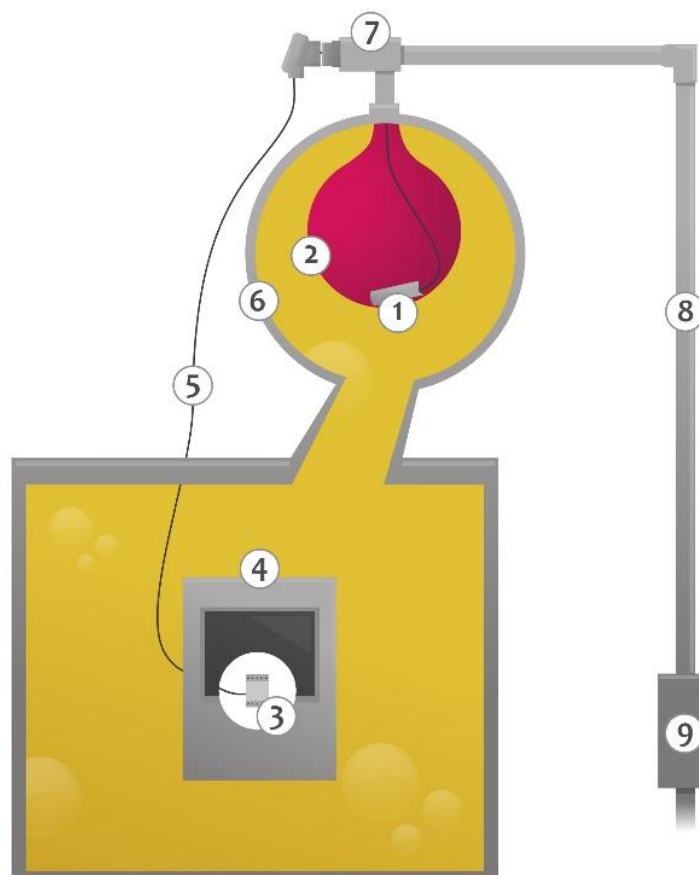

Figure 4 - MBR relay application with a rubber bag based system
Figure 4 illustrates the application of the Membrane Relay with a rubber bag based sealing system. In this figure we can see the sensor (1) located inside the rubber bag (2). The sensor (1) is connected to the control module (3), installed on the transformer control panel (4), through a cable (5). The cable (5) path from the inside of the bag (2) to the outside is made by means of a junction box (7), located at the beginning of the air tubing (8), in order to maintain the sealing of the expansion tank (6) and the bag (2). This junction box is not supplied with the MBR, as its physical construction will depend on the construction of the conservator tank.